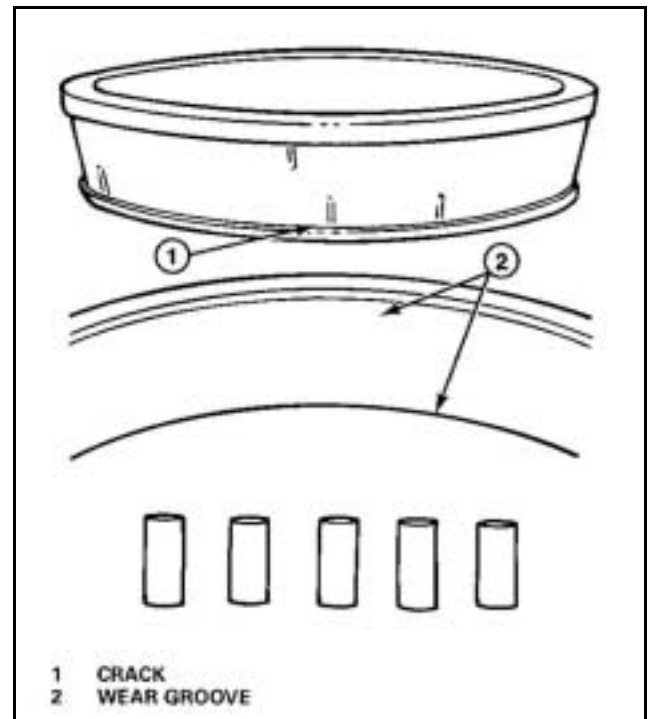

Figure 37
- c. A visible roller groove in the cup or cone inner race surfaces. The groove can be seen at the small- or large-diameter end of both parts. **Figure 37.**
- d. Deep cracks or breaks in the cup, cone inner race or roller surfaces. **Figure 37.**